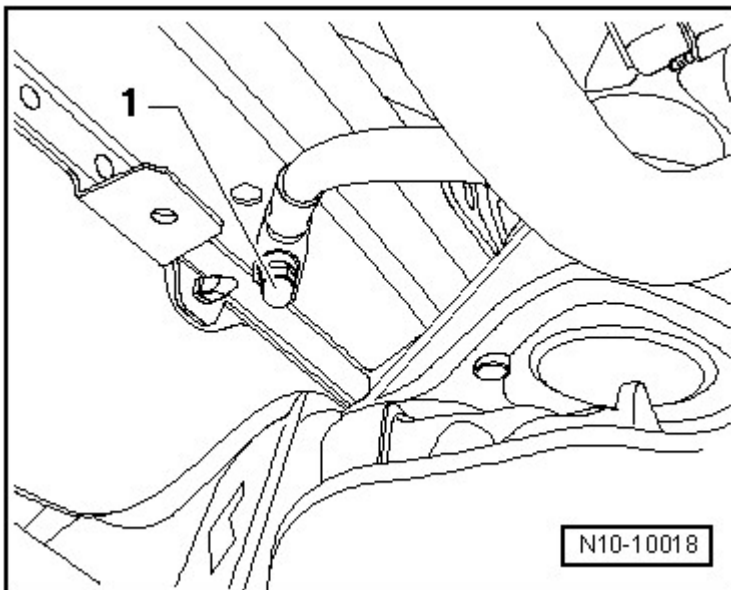

Fig. 93: Identifying Ground (GND) Cable On Longmember
- Tighten the ground connection on the right longitudinal member. Refer to **Fig. 93**.